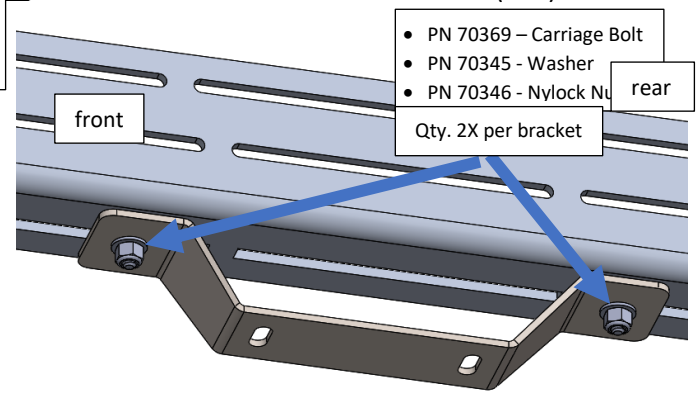

Figure 5: Fastening Transit Mounting Bracket (Underside)
- Fasten mounting brackets to side rail subassemblies completed in Step 1 at the following locations referenced in Figure 3. Use the 5/16" hardware and reference Figure 5 for proper placement. Position foot so the offset is towards the van as shown in Figure 5.